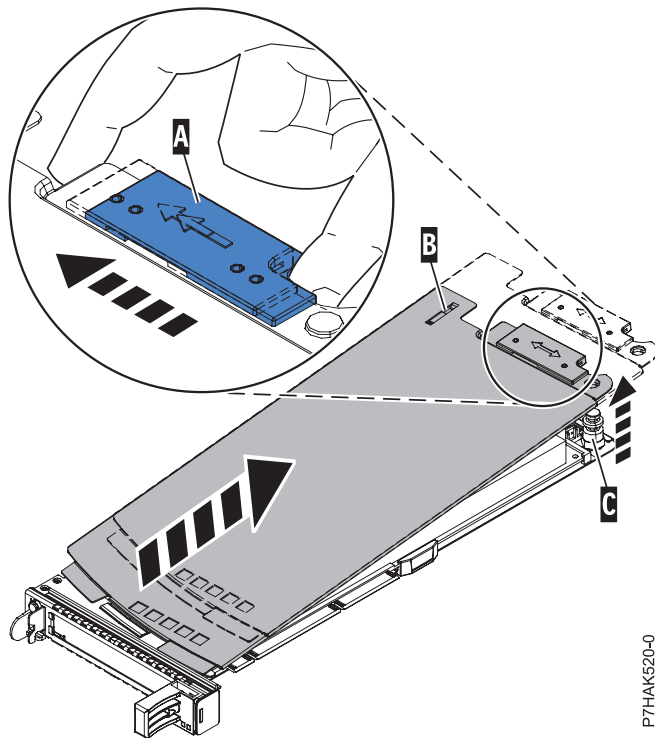

Figure 70. Removing the PCIe adapter cassette cover
- a. Slide the cover latch (A) to disengage it from the pivot pin (C) as shown in Figure 70 on page 67.
- b. Lift the cover (B) off of the pivot pin (C).